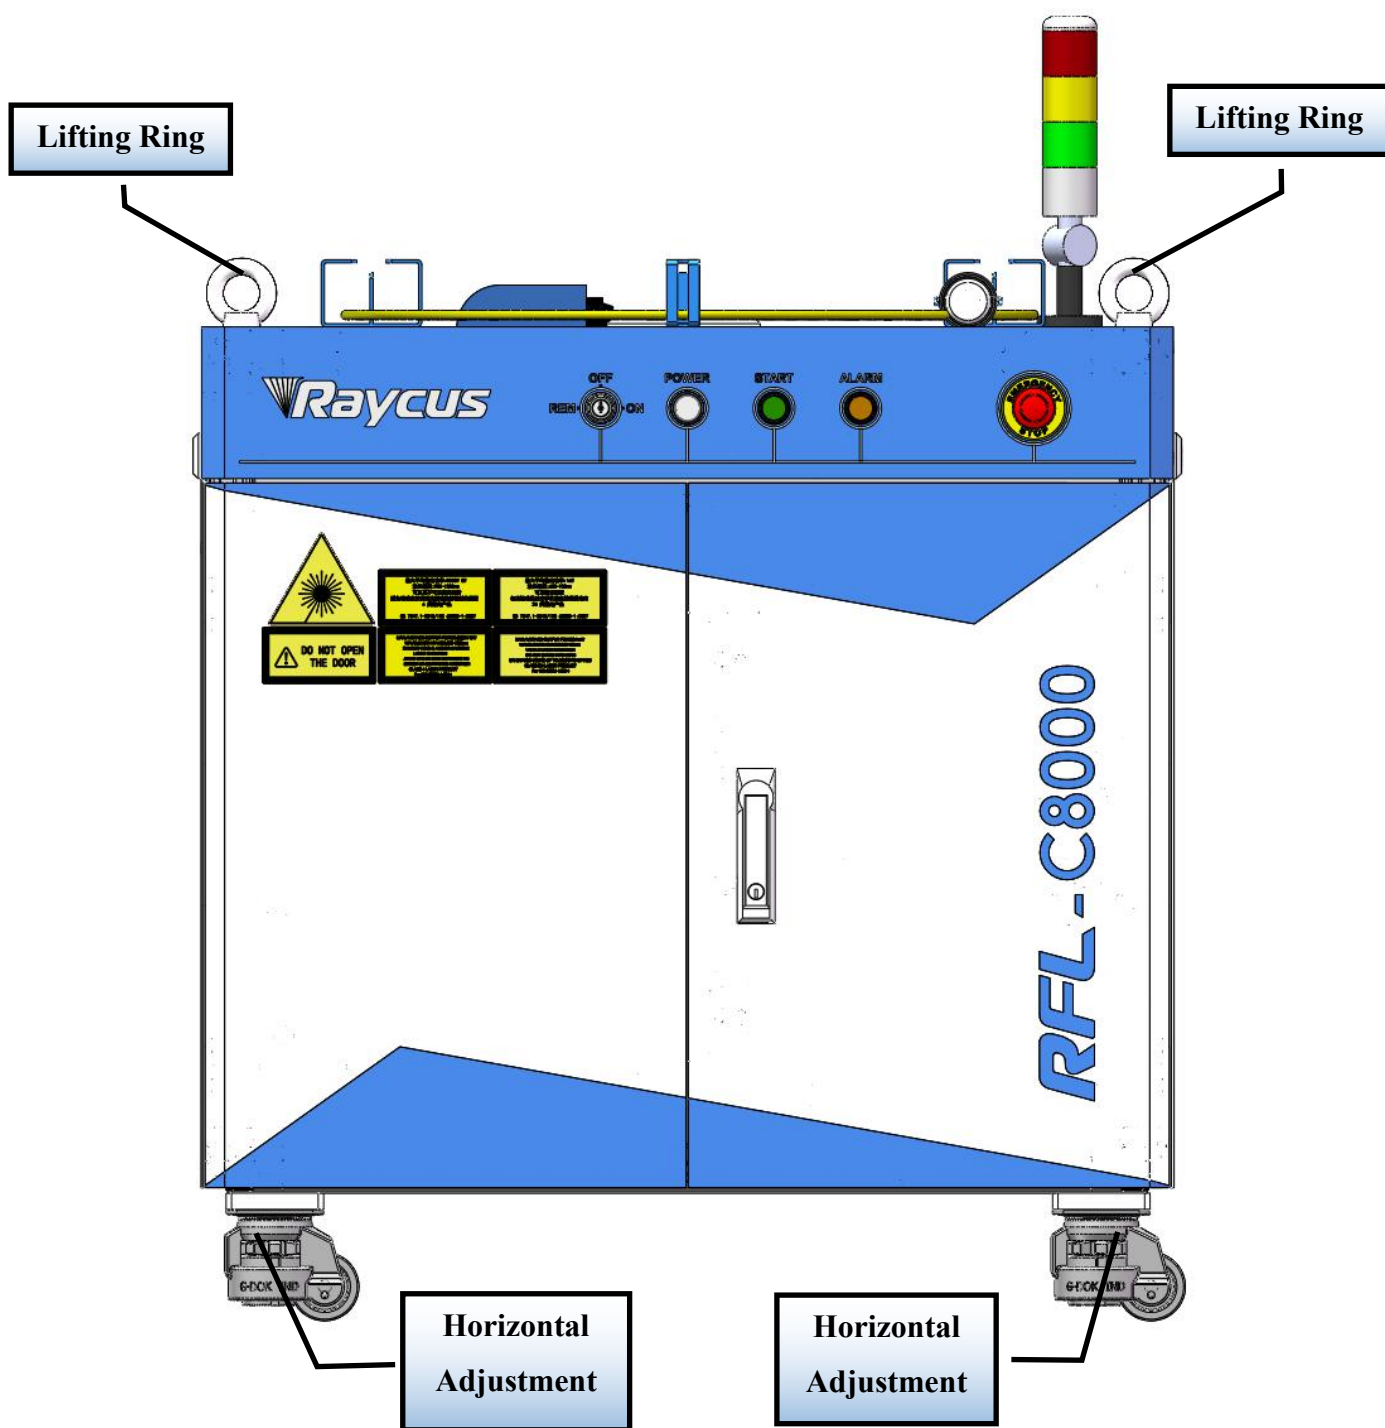

Figure 4 Laser lifting ring and horizontal adjustment caster
- i) Customers can use the four lifting rings at the top of the product or the four casters at the bottom to lift or move the product. Before lifting the laser source, make sure that the four lifting rings are installed firmly and reliably. When lifting the laser source, be sure to use the four lifting rings; when pushing the laser source, please make sure that the support block at the bottom of the horizontal adjustment caster is off the ground. After the laser source is positioned, adjust the support block to make it contact the ground to avoid displacement of the laser source. As shown in Figure 4(Take C8000M as an example).